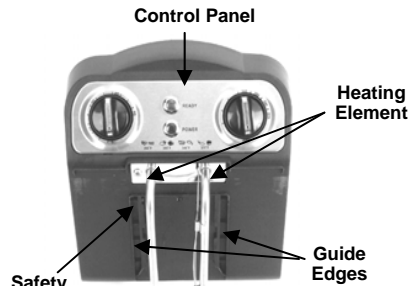

Fig. 5
**Note:** The deep fryer has an automatic safety switch to ensure that the unit will not operate unless the control panel has been inserted securely into the guide rails on the body of the deep fryer. (Fig. 5)